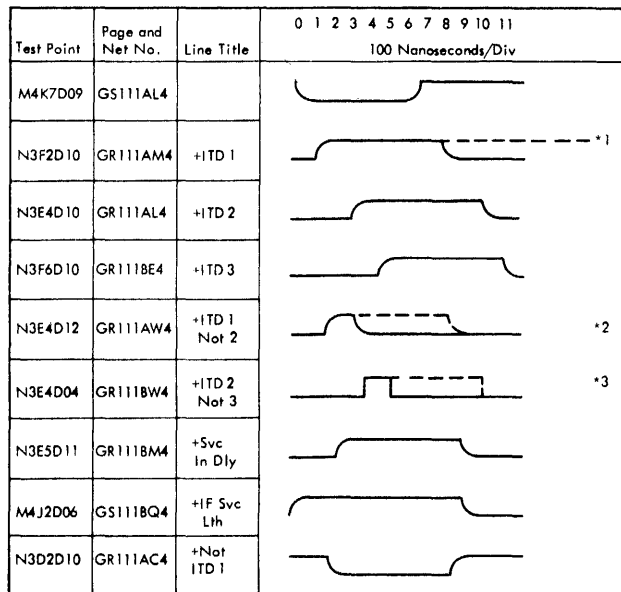

FIGURE 105. TAG GENERATOR
3. Check all points in Figure 105.
5. Set address key 9 down (if STOP SEL).
6. Scope test point *1 in Figure 105.
7. Set address key 10 down, address key 11 up (10 code ITD1 and IT); press enter pushbutton. Pulse should change from solid to solid plus dotted line.
9. Repeat step 7 and 8 scoping test points *2 (code 01 = 10 up, 11 down) and *3 (code 11 = 10 down, 11 down) (Figure 105).